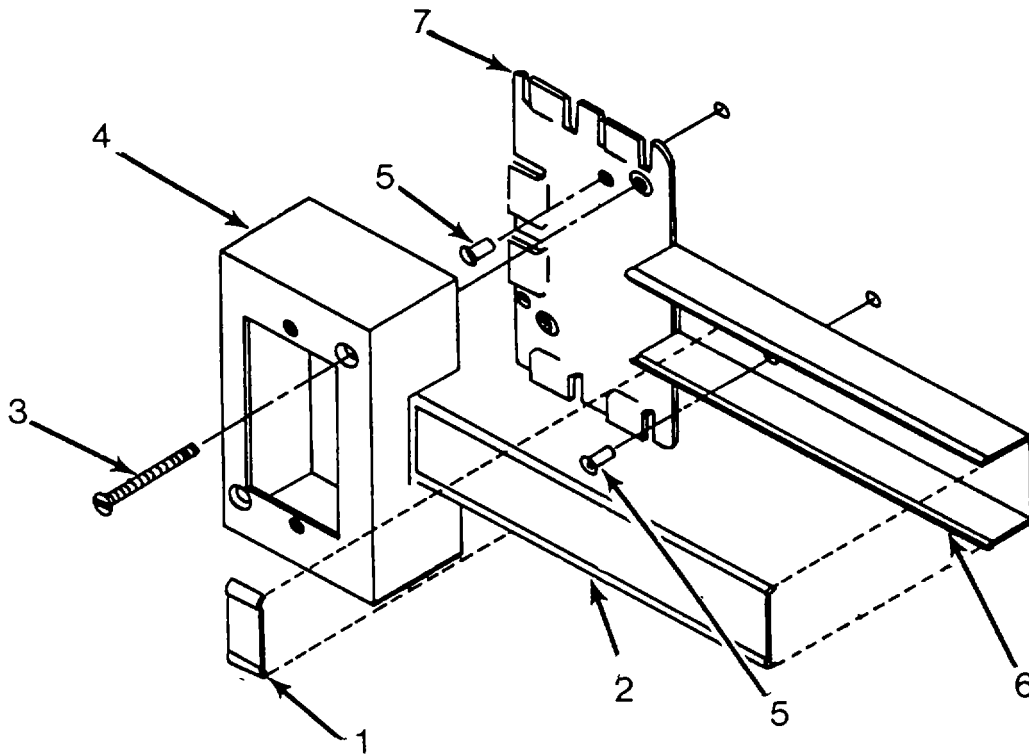

Figure 5-10. Utility Boxes
(4) Replace Utility Boxes. (See Figure 5-10.)
- (a) Remove clip (1) and cover (2).
- (b) Remove screws (3) and box (4).
- (c) Remove rivets (5), channel (6) and box mounting plate (7).
- (d) Install and secure mounting plate (7) and channel (6) with rivets (5).